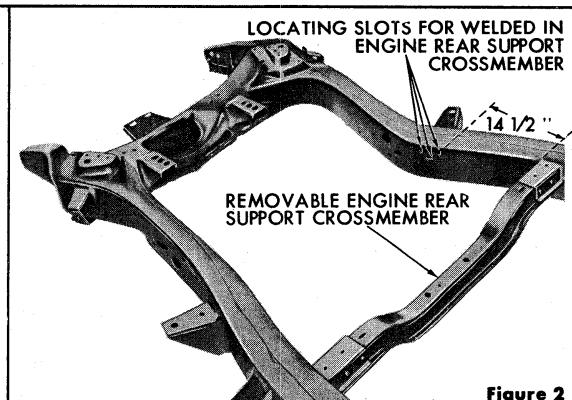
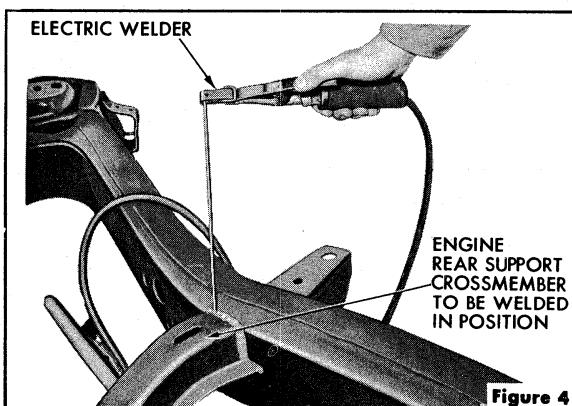

Figure 2
Figure 4
**OPERATION NO. 1:** Remove the bolted in removable engine rear support crossmember assembly by removing the four bolts, lockwashers and nuts which hold it in place (Fig. 2).
**OPERATION NO. 3:** Position the engine rear support crossmember assembly in the locating slots which are located approximately 14 1/2 inches forward from the brackets which held the removable crossmember (Fig. 2). NOTE: It may be necessary to cut off about 1/2 inch of the tabs on one end of the crossmember in order to drive the crossmember into position. (Figs. 3A and 3B). Make sure it is properly positioned flush with frame side rails and overlap joints are in contact with the top prior to welding. Using an electric welder, weld crossmember in position (Fig. 4).